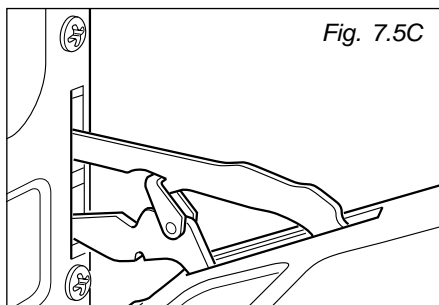

Fig. 7.5C
- Gently close the door and withdraw the lower hinge pins from their location (fig. 7.5C).